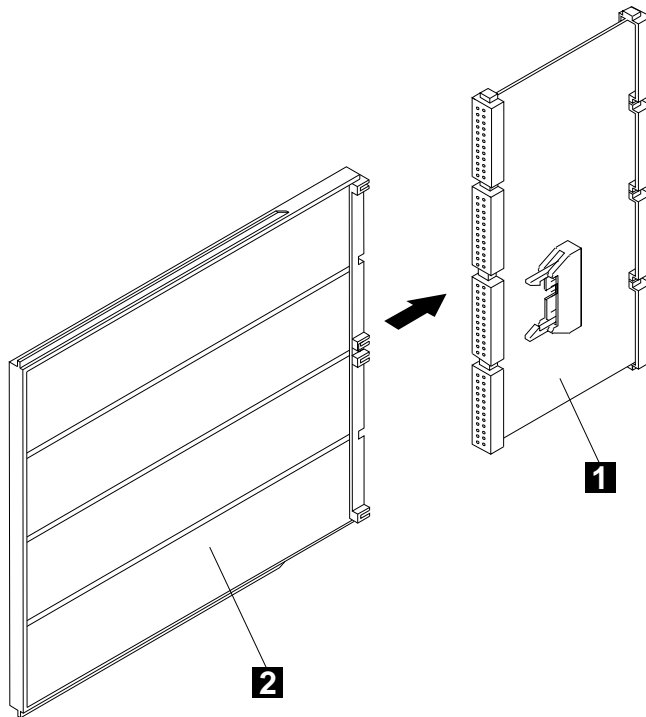

Figure 4-28. Installing a DICO Card Using a Dummy Card
- Step 7. ____ Then, using a dummy card **2** PN 2733278 push and put the DICO cards **1** in place (see Figure 4-28).